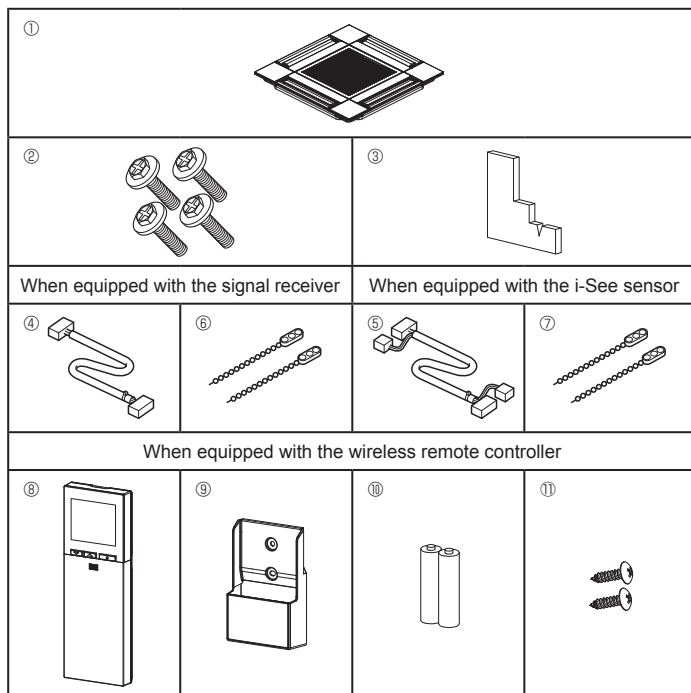

Fig. 6-1
6.1. Check the grille accessories (Fig. 6-1)